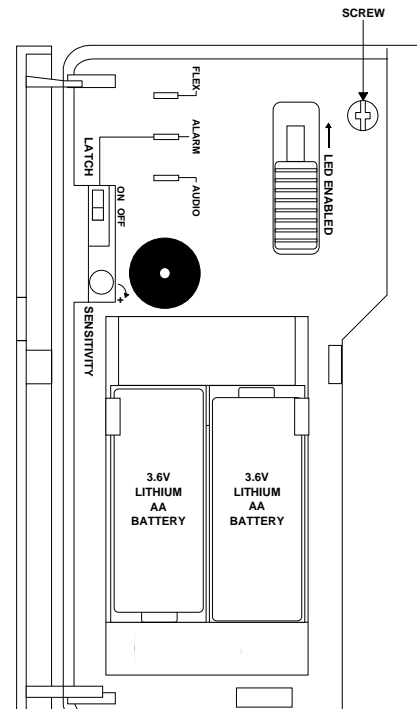

Figure 3. Screw Location
- Remove the screw shown in Figure 3, using a Phillips screwdriver.